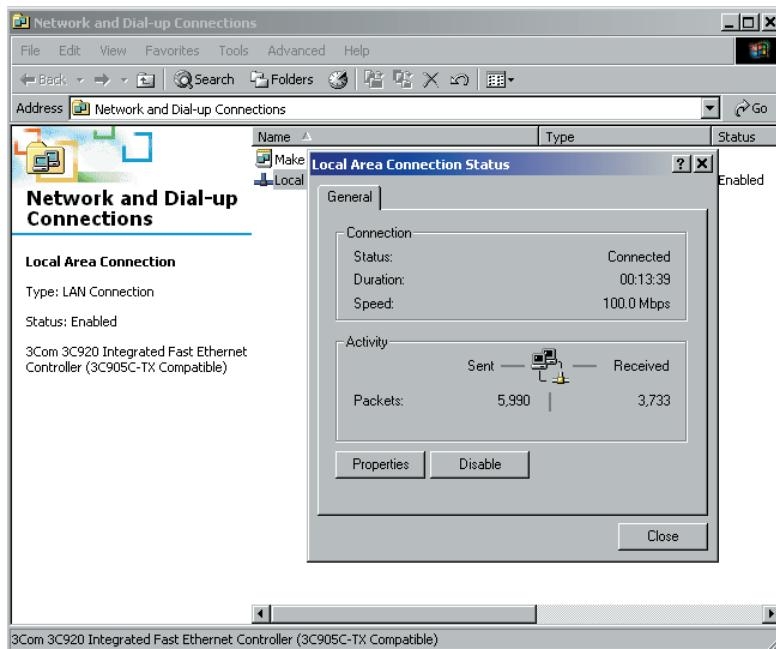

Figure 1-4. Properties, Local Area Connection Status Screen
Step 2: Select/click Properties on the Local Area Connection Status screen (Figure 1-4).